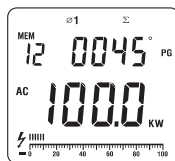

Figure 10
- If necessary, press Σ to get the sum of watts as figure 10.